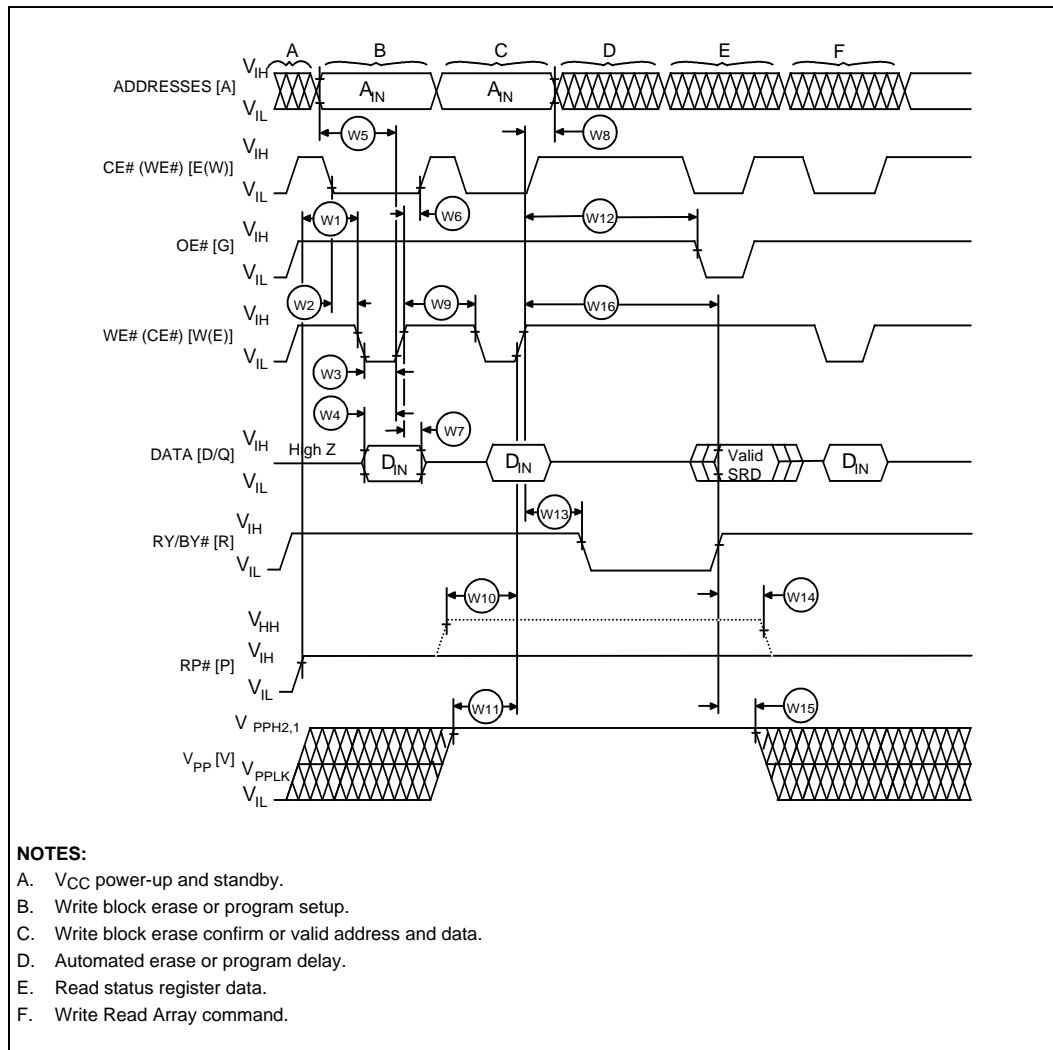

Figure 17. AC Waveform for Write Operations
5. Reference the *AC Waveform for Write Operations*, Figure 17.